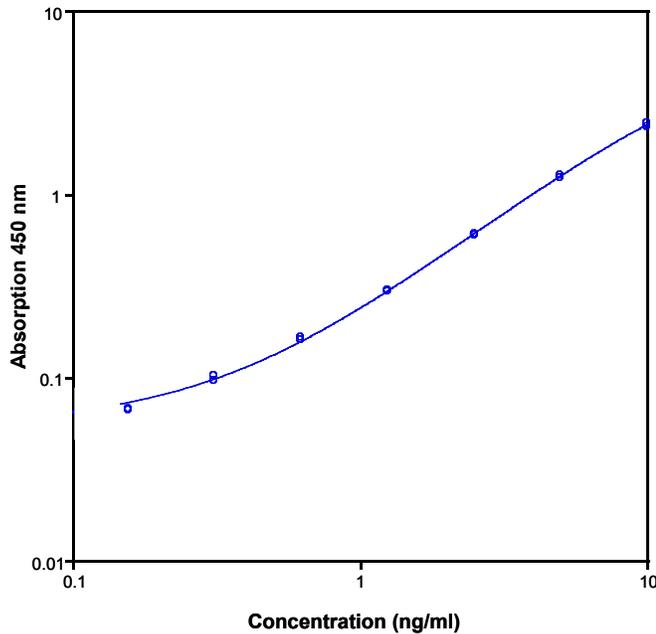

Fig. 8 Representative standard curve for human CTLA-4 ELISA. Human CTLA-4 was diluted in serial 2-fold steps in Sample Diluent.
- A representative standard curve is shown in Figure 8.